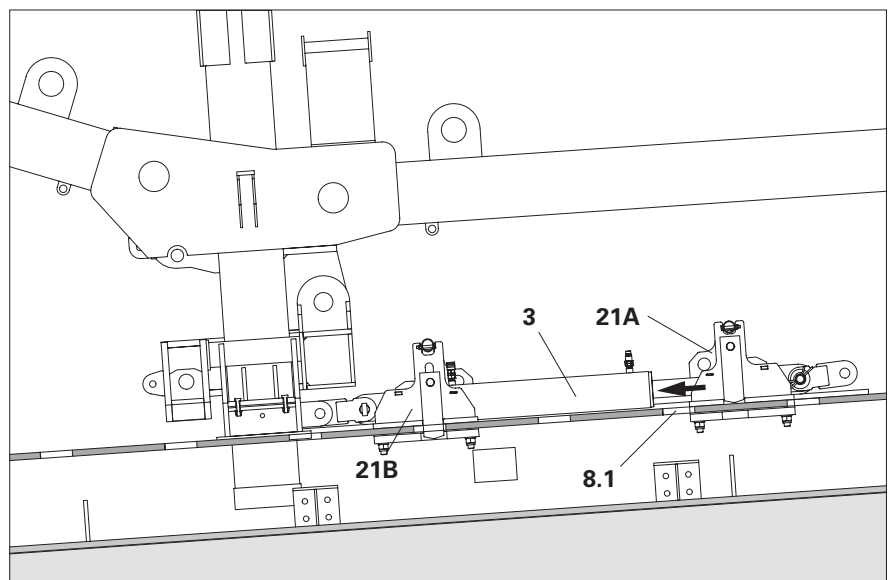

Fig. C1.06
- The drive catch head (**21A**) is pulled forward. (Fig. C1.06)